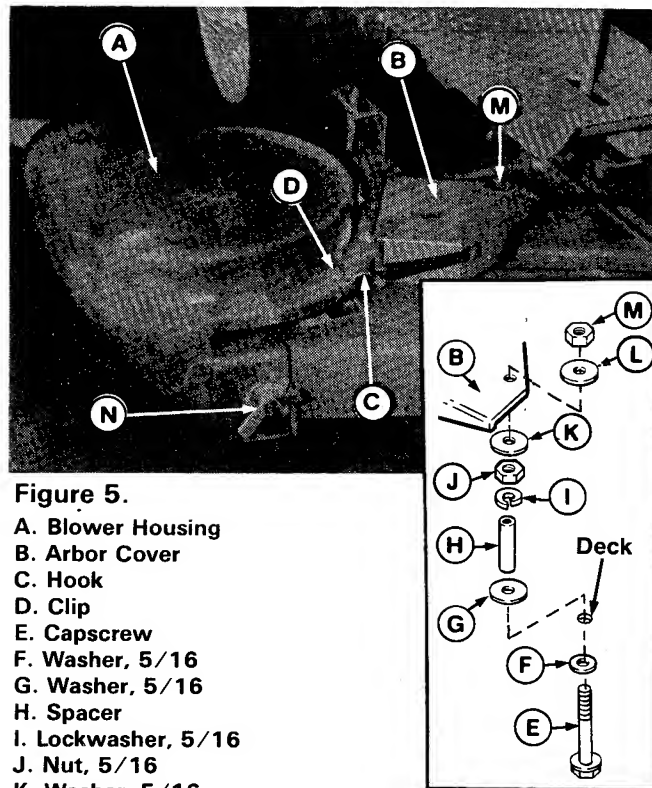
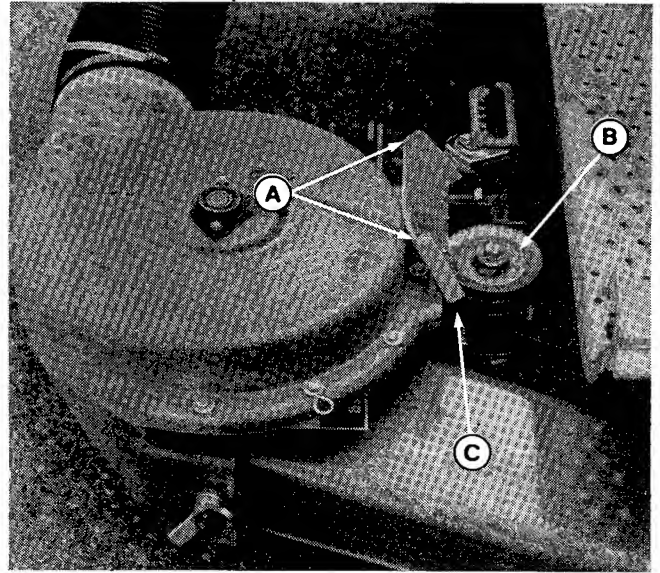

Figure 5.
Figure 9.
10. Install the belt cover (B, figure 5) with hardware shown, Items E through M. (Figure 5 shows blower housing but it is not installed at this point of the procedure.)
11. Install wing nut (N, figure 5) as follows:
- Pivot cover (B, figure 5) away to expose the arbor.
- Place mower in low cut position. Raise the flap (A, figure 9) and install the blower drive belt (C) in the top groove of the pulley (B). (Pivot cover B, figure 5, away to expose flap.)
- Rotate the pivoting cover (B, figure 5) into place and attach the hook (C) to the clip (D) on the housing.